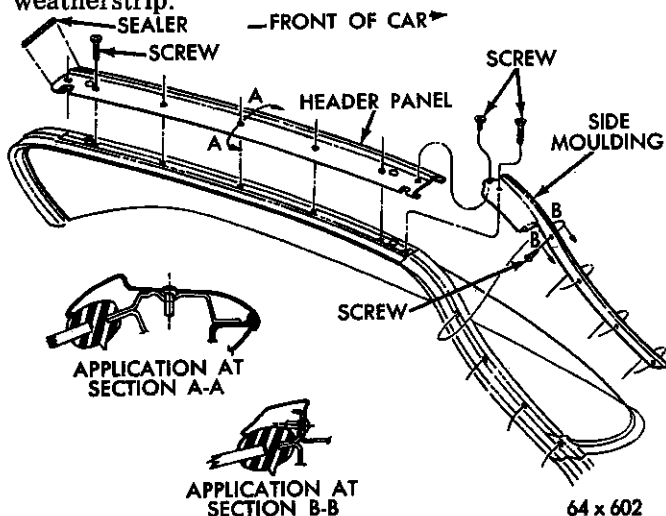

Fig. 58—Windshield Header and Side Moulding Attachment (Convertible)
(1) Remove the windshield weather strip.
(2) Install the glass in the opening with six four-inch long pieces of weather strip, as shown in Figure 58). (This is enough to support the windshield in place).
(3) Measure the clearance between the glass and the fence. A properly centered glass has $2\frac{1}{64}$ to $3\frac{3}{64}$ inch clearance on all sides, and $\frac{1}{8}$ to $\frac{1}{4}$ inch distance between the outer edge of the glass and the centerline of the fence.
(1) Cover up the adjacent cowl, hood and fender area with protective covering.
(2) Release the top locking mechanism and push the top header from the windshield frame to expose the screws holding the moulding.
(3) Remove the windshield wiper arms and blades.
(4) Remove the upper header moulding, attaching screws and remove the moulding.
(5) Pry the header moulding up slightly to clear the moulding from the weather strip then disengage from the header and remove, as shown in Figure 58).
(6) Remove the screws attaching the inner and outer side "A" post side mouldings.
(7) Remove the sun visors.
(8) Remove the screws attaching the header trim cap to header.
(9) Remove the windshield glass.
(2) Force the moulding against the weather strip, then press the rear edge down over the header.
(3) Install the screws to hold in position, then tap lightly with a rubber hammer to seat (Be sure the cap is evenly spaced across the header).
(4) Install the screws and tighten securely.
(5) Install the inner and outer trim mouldings (Refer to Figs. 58 and 59).
(6) Press tightly against the weather strip, engage with the header, and lower moulding, then press down over door hinge pillar ("A" post) and install the retaining screws.
(7) Seal the windshield.
(8) Install the sun visor and wiper arms. Test for leaks and clean the windshield.